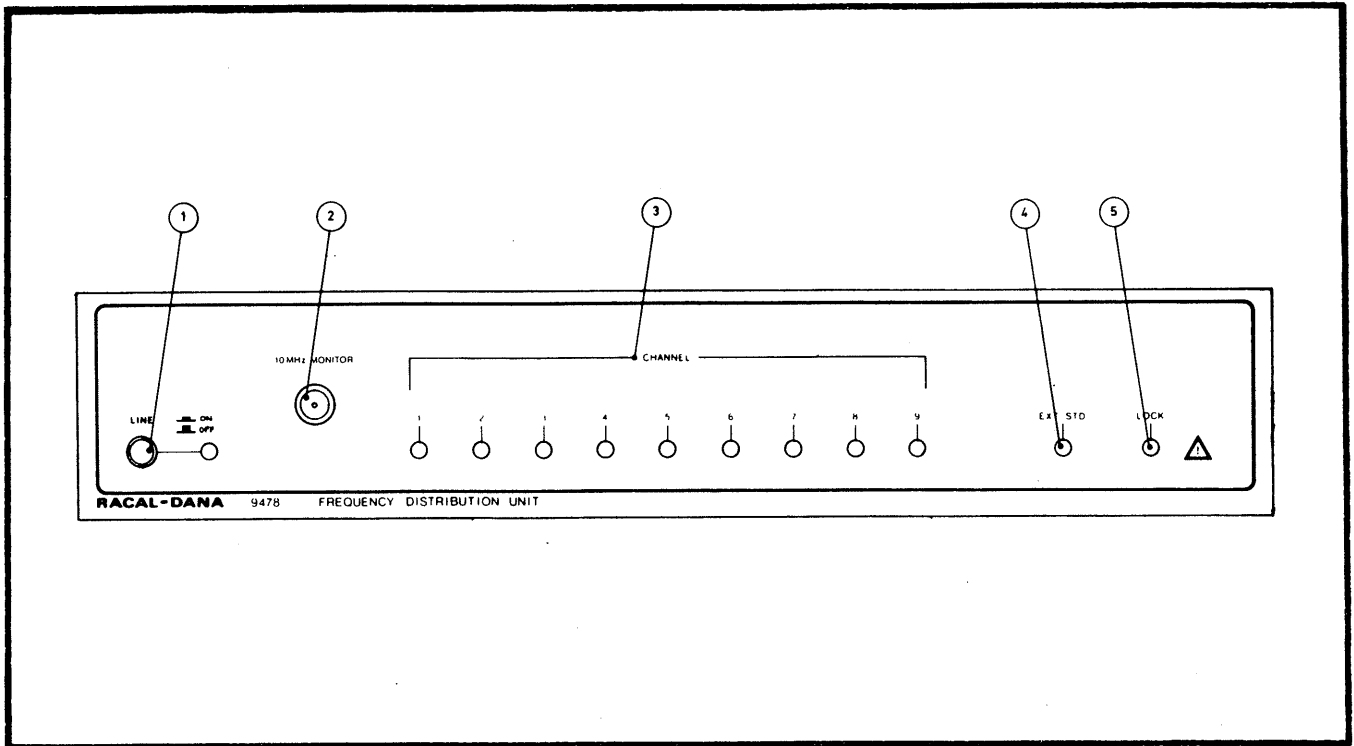

Fig. 4.1 Front Panel
4.2.1 Each group of controls, indicators or connectors described is numbered to correspond with the indicators on Fig. 4.1 (front panel) or Fig. 4.2 (rear panel).